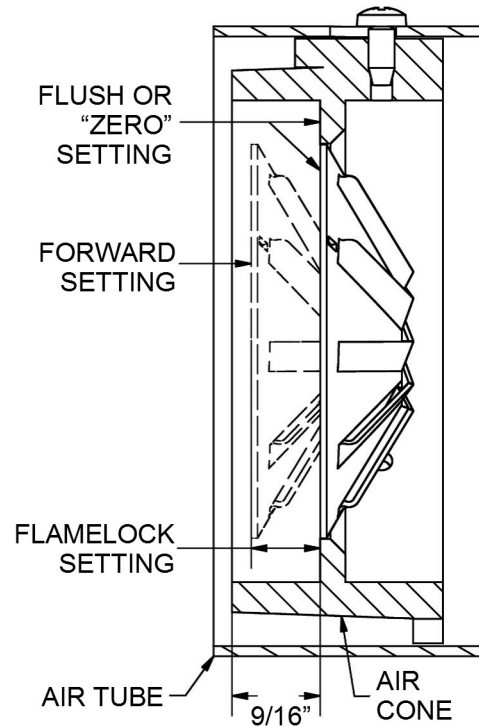

Figure 13: Flamelock Diagram
3. At this point, the Flamelock™ cone should be flush with the stepped face of the air cone (See Figure 13, page 7). If it is not flush, loosen the 3 screws securing the air cone in place.
Setting "A" - Flamelock™ settings are a direct reading in 1/16" steps. A number 2 setting indicates the Flamelock™ is 1/8 inch ahead of the Air Cone "Flush Setting". (See Figure 13)